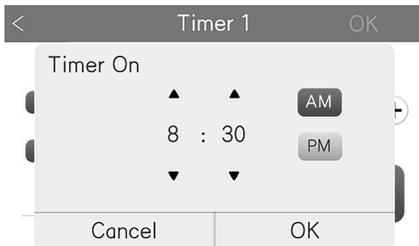

Fig 5.6 Time setting for timer ON
- Click timer ON to set startup time (Fig 5.6);